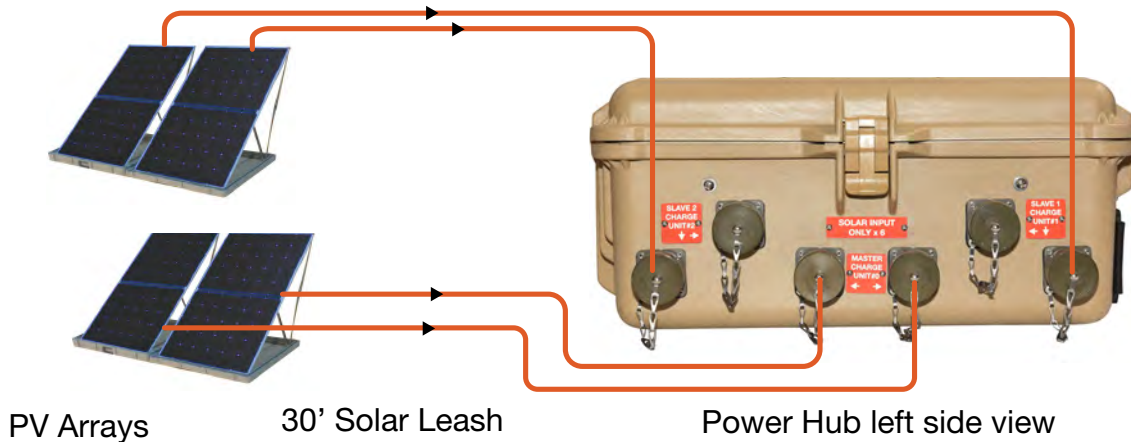

Figure 18. Solar Array to Power Hub connections
**Note:** Each pair of panels connects to one (1) 30' Solar Leash. Connect two (2) arrays to Power Hub with four (4) 30' Solar Leashes (See Figure 18).